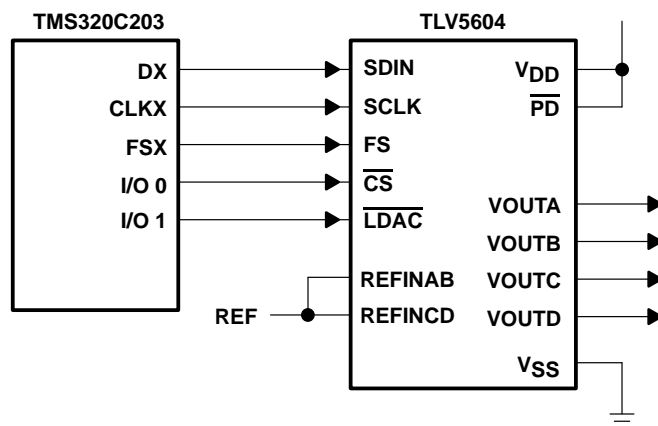

Figure 17. TLV5604 Interfaced with TMS320C203
Figure 17 shows an example of how to connect the TLV5604 to a TMS320C203 DSP. The serial port is configured in burst mode, with FSX generated by the TMS320C203 to provide the Frame Sync (FS) input to the TLV5604. Data is transmitted on the DX line, with the serial clock input on the CLKX line. The general-purpose input/output port bits IO0 and IO1 are used to generate the Chip Select ($\overline{\text{CS}}$) and DAC Latch Update ($\overline{\text{LDAC}}$) inputs to the TLV5604. The active low Power Down ($\overline{\text{PD}}$) is pulled high all the time to ensure the DACs are enabled.